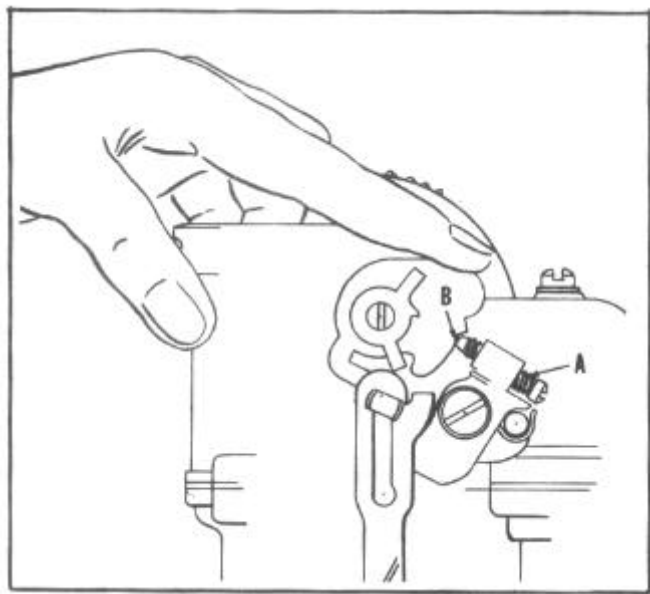

FIGURE 15
3. Hold choke valve open and press down fast idle cam until idle adjusting screw is seated on the lower step of cam (B), Figure 15.
4. Turn idle adjusting screw (A), (on low step of cam), until engine RPM reaches 700 for warm climate and 800 for cold climate.